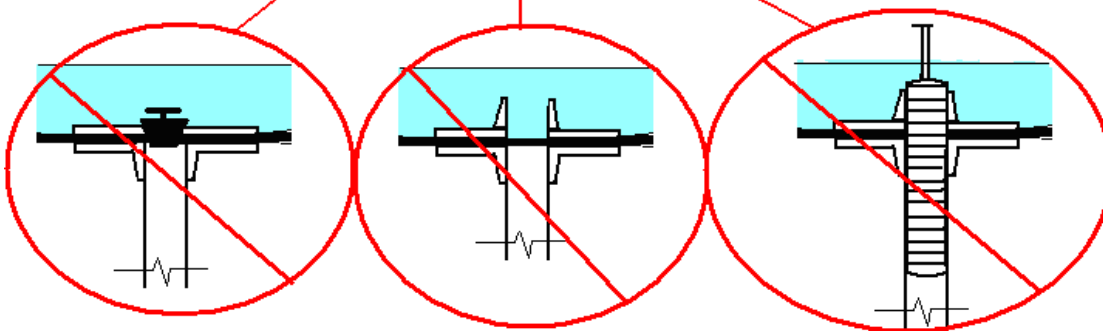

FIGURE P-1
20. If using site constructed built-up shower receptors, all lining, hot-mopped or other approved materials shall be pitched one-quarter (1/4) inch per foot to weep holes in the sub drain of a smooth and solidly formed sub-base. All such lining materials shall extend upward on the rough jambs of the shower opening to a point no less than three (3) inches above the top of the finished dam or threshold and shall extend outward over the top of the rough threshold and be turned over and fastened on the outside face of both the rough threshold and the jambs. There shall be no perforations/nails lower than 1" above dam.
21. Shower pans shall be tested for water-tightness by filling with water to the level of the rough threshold. The test plug shall be so placed that both upper and under sides of the sub-pan shall be subjected to the test at the point where it is clamped to the drain. Test shall be 24 hours minimum. See FIGURE P-1 on Page 6.